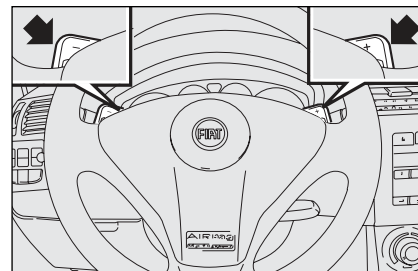

fig. 6
- ☐ the steering wheel controls **fig. 6**, which can be operated only when the car speed exceeds 5 km/h.